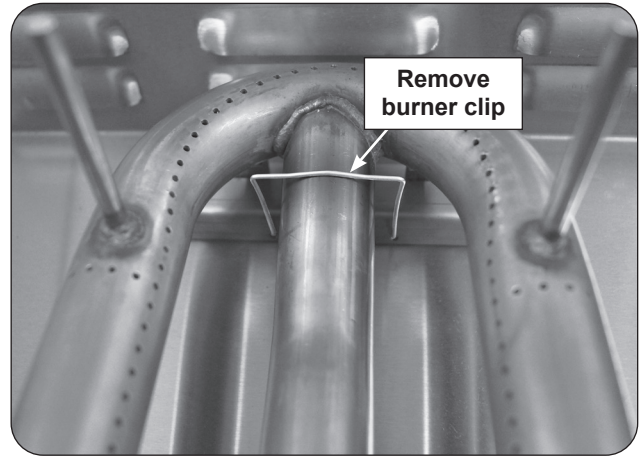

Fig. 38-1 Main burner removal
3. Locate the burner clip (located over the rear center tube of the burner) and slightly pinch and remove the clip from the burner support. See Fig. 38-1.